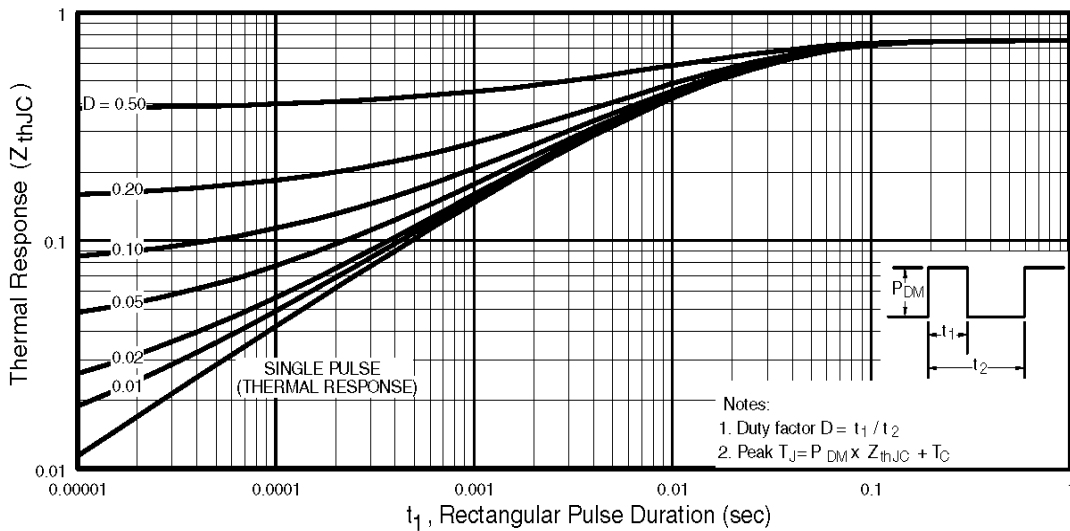

Fig 11. Maximum Effective Transient Thermal Impedance, Junction-to-Case
- ① Repetitive rating; pulse width limited by max. junction temperature. (See fig. 11)
- ② V_{DD} = 15V, starting T_J = 25°C, L = 180μH